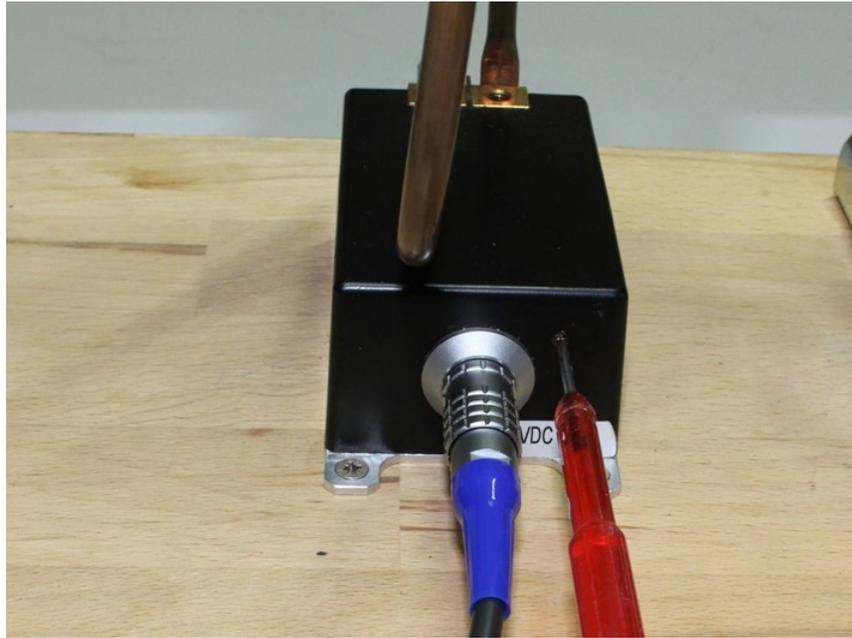

Fig. 56: Adjusting the stator power via potentiometer screw
- Measure a voltage lower than 4.096 V DC between EX- and EX+, also check the rms value VAC of the AC voltage applied between IP1 and IP2. If $0 \text{ V} < \text{VAC} < 0.6 \text{ V}$, increase the power of the stator using the potentiometer on the stator housing (see figure 56). **Please proceed slowly** when doing this. The direction of rotation for increasing/decreasing the stator power is indicated on the housing.
- Measure a voltage lower than 4.096 V DC between EX- and EX+, also check the rms value V_{AC} of the AC voltage applied between IP1 and IP2. If this voltage is < 0.6 V, increase the power of the stator via the potentiometer on the stator housing (see figure 56 ^[72]). To do this, turn the potentiometer screw clockwise. Turning it counterclockwise reduces the stator power.